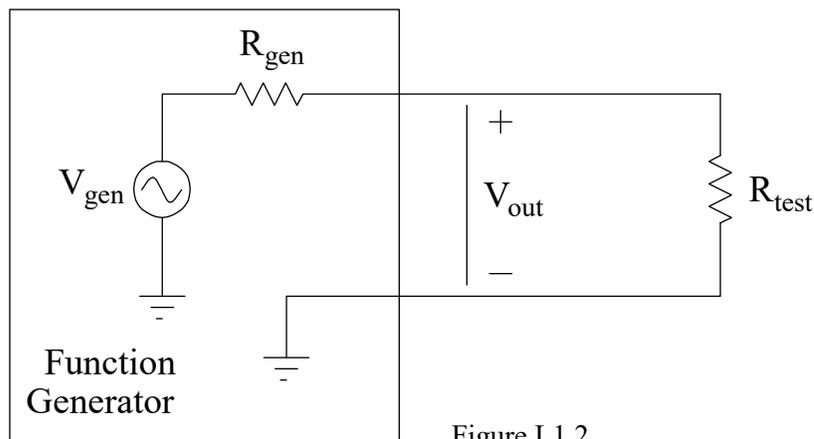

Figure L1.2
Measure the low frequency output impedance of the AD2's arbitrary waveform generator. Do this by hooking the output of the generator to a test resistor R_{test} of value from $50\ \Omega$ to $100\ \Omega$ to ground, as shown in Fig. L1.2. Before measuring this impedance, be sure to set the AWG output's jumper to the $50\ \Omega$ source impedance.
In this configuration, the voltage V_{out} indicated in Fig. L1.2 takes the form
- (a) Choose a test resistor R_{test} with value between $50\ \Omega$ and $100\ \Omega$ and hook up the circuit shown in Fig. L1.2. Make sure you measure and record the exact value of the chosen resistor using the DMM. Set the function generator to output a sinusoidal waveform with a reasonable choice of amplitude (e.g., 1V) and a frequency of 10 kHz or lower. Measure the amplitude of V_{out} using your oscilloscope (with a properly compensated probe).